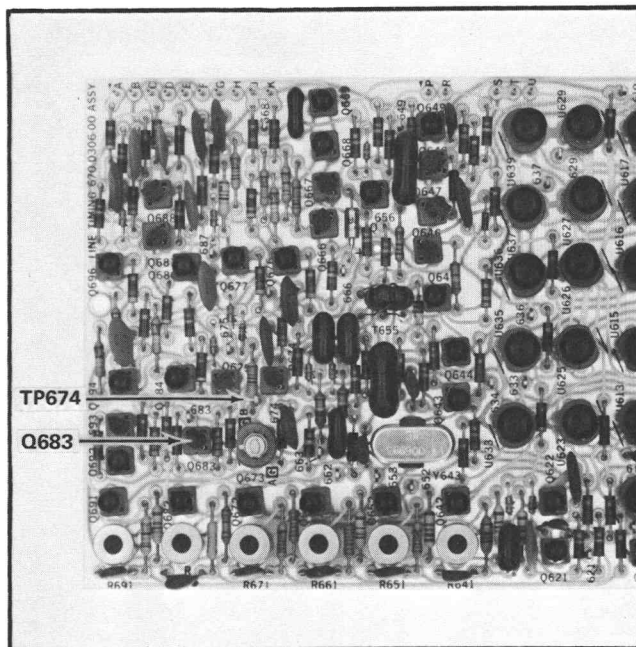

Fig. 5-5. Line Timing board test point and transistor locations.
f. From the Type 1A5 B Input connector, connect a 10X probe to TP674 on the Type 142 Line Timing board (see Fig. 5-5).